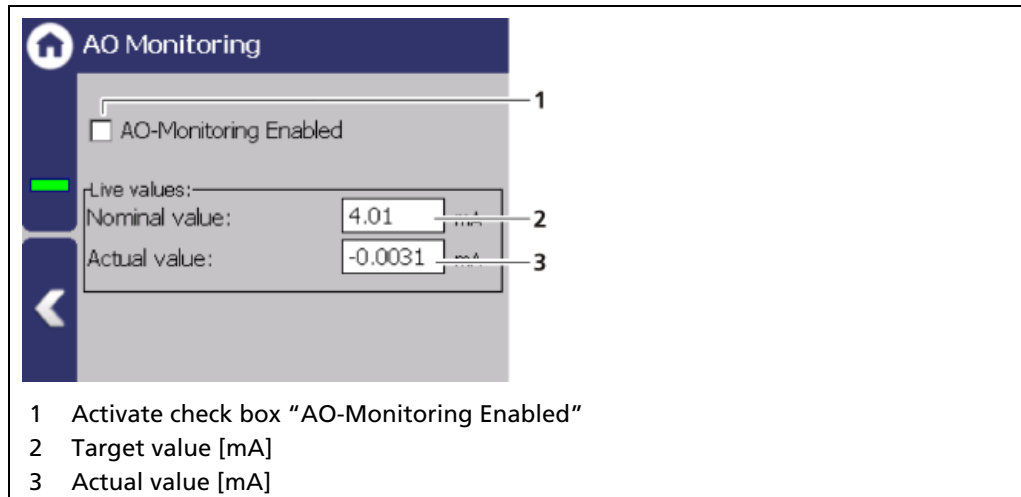

Fig. 100 Analog Output Monitoring
If “AO Monitoring” is activated (Fig. 100, item 1), the current output will be monitored. It is continuously monitored whether the current value flowing in the current loop is correct.